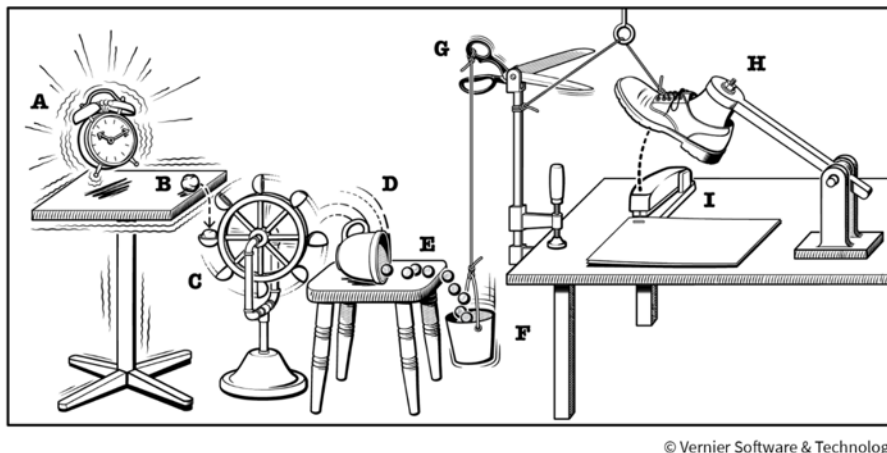

Fig. 1 – Illustration of a Rube Goldberg design
- An illustration of an overly dramatic one is shown in Fig 1. Watch the video on this page for the types of designs we typically see when using this challenge in K-12 education.